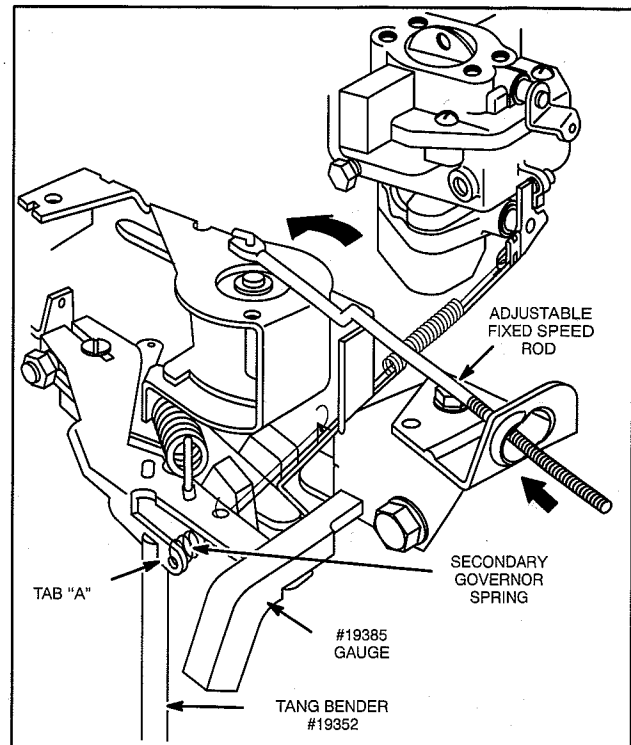

Fig. 20 - Adjusting Secondary Spring
against governor control bracket as shown in Fig. 20.
4. Holding gauge in position, bend tab "A" so that all slack is removed from secondary governor spring between its two anchor points, Fig. 20. **DO NOT STRETCH SPRING.**